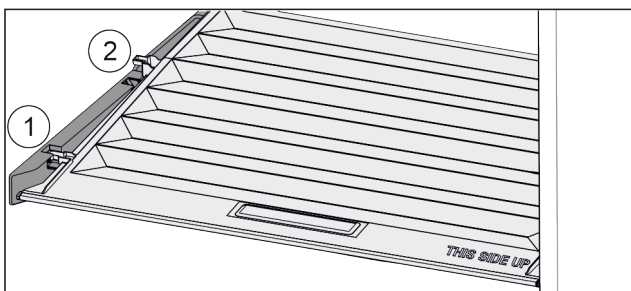

Fig. 63
- ▶ Pull the lid up at the front to the opening in the retaining parts Fig. 63 (1).
- ▶ Lift from the back and pull it up and out Fig. 63 (2).